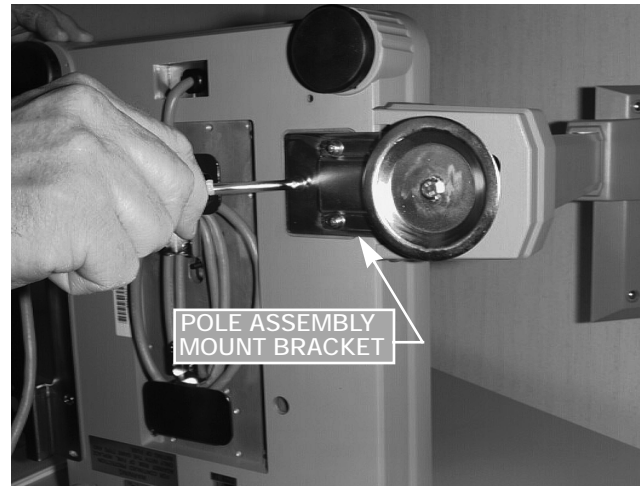

Figure 2-9. Attach Pole Mount Assembly to Base
4. Attach pole mount assembly to base using three 4 mm x 10 mm machine screws (shown in Figure 2-9).